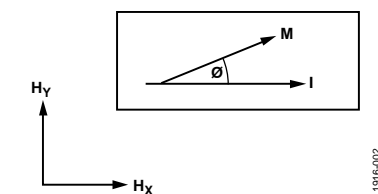

Figure 2. Anisotropic Magnetoresistive Example
An example of the AMR effect is shown in Figure 2. A current (I), flowing through a conductor, is subject to an external magnetic field (H_Y). The resistance of the conductor changes as a function of the angle (θ) between the magnetization vector (M) and the current flow vector (I). The magnetization vector is the net sum of the internal magnetic field (H_X) and the applied external magnetic field (H_Y).